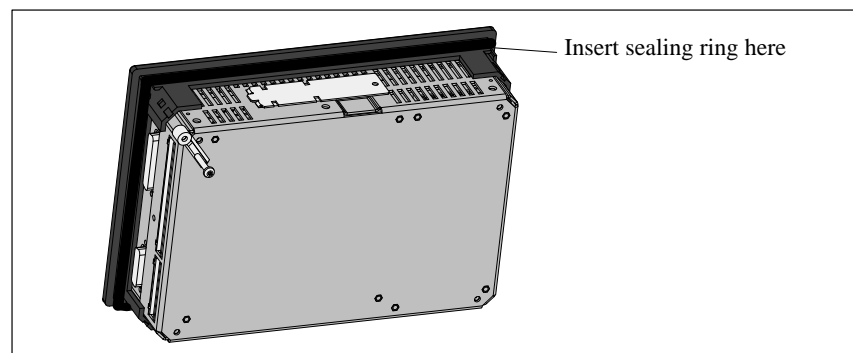

Figure 2-2 Inserting the Sealing Ring
2.	Insert the enclosed sealing ring behind the front panel (see Figure 2-2).